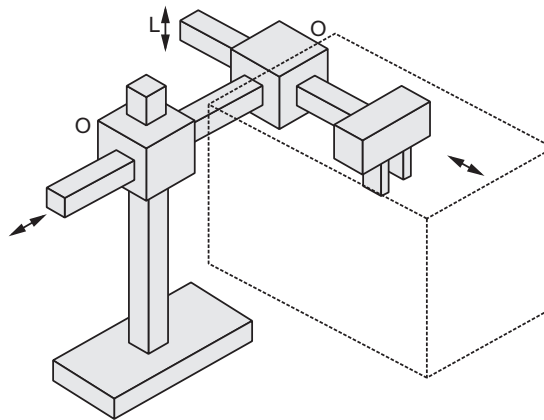

**Fig. 6.3 : Cylindrical configuration**
- Cylindrical configuration forms cylindrical shaped work envelope as shown in Fig. 6.3.